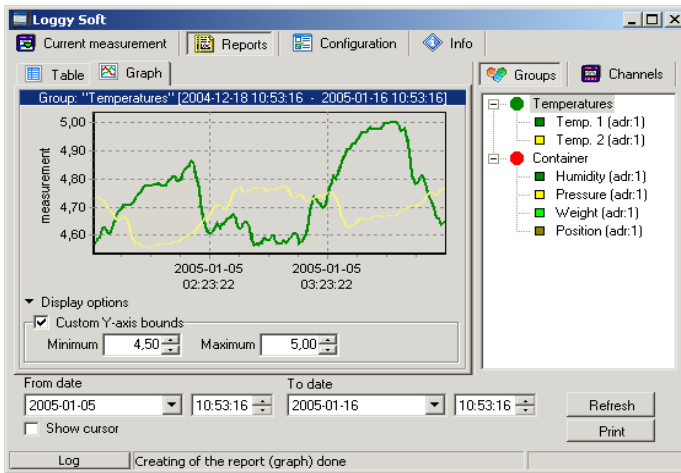

Fig. 3.6. Reports - *Graph* tab
Graph tab (Fig. 3.6) is used for viewing and printing of measurement results recorded by device (e.g. temperature, humidity) in the form of a graph. Measurements from a maximum of five recorded measurement channels can be viewed.
- **graphs area** - plots measured values (e.g. temperature, humidity) in function of time. Each channel is distinguished by a different colour (Fig. 3.6);
- click appropriate tab **Groups** or **Channels** (Fig. 3.6),